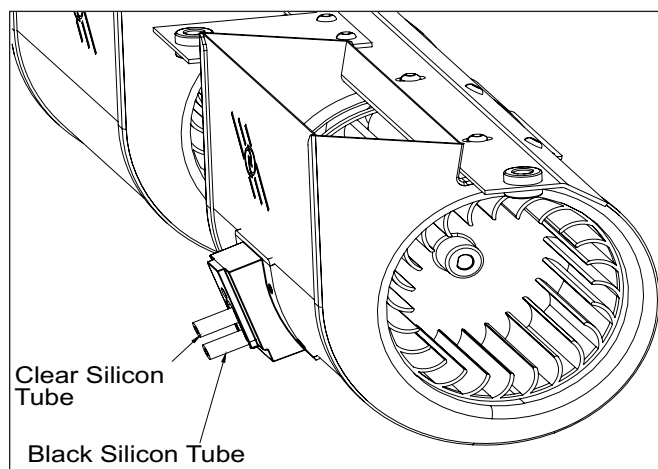

FIG 26 Room Fan
5. Insert fan into chamber ensuring that the venturi is not disturbed. Replace silicon tubes onto the venturi and locate fan onto male thread. Secure with M5 wing nuts, ensuring rubber buffer locates over thread. Refer to **FIG 26**.